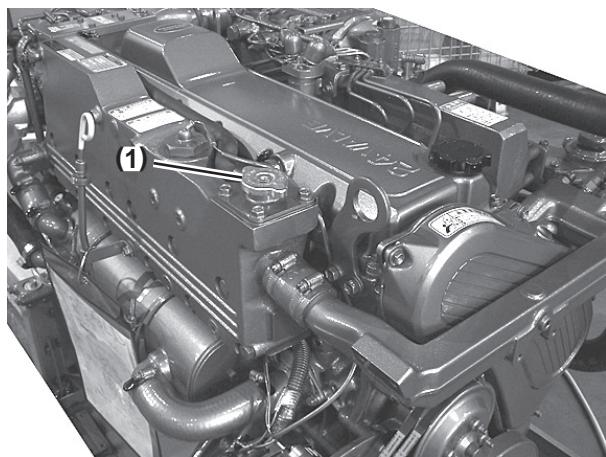

Figure 3-24
2. Loosen the filler cap of the coolant tank to relieve the pressure, then remove the filler cap (Figure 3-24, (1)). **WARNING! NEVER remove the filler cap while the engine is hot. Serious burns may result.**